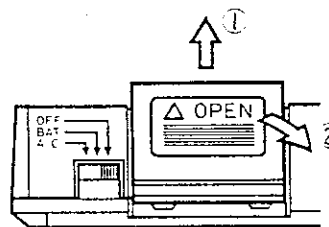

Fig.6
Insert the four Penlight batteries following steps from Fig.6 to Fig.8. Setting the power switch to BAT. will supply power to AD-8117(A).
1. Open the battery box. (Fig.6)